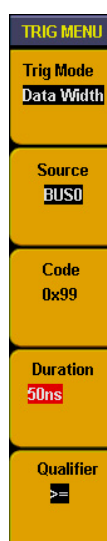

Fig 72: Duration trigger menu
6、 **Data width queue trigger**: Make BUS as trigger source and continuous duration in BUS as trigger condition to generate trigger. Duration trigger menu refer to Fig. 72